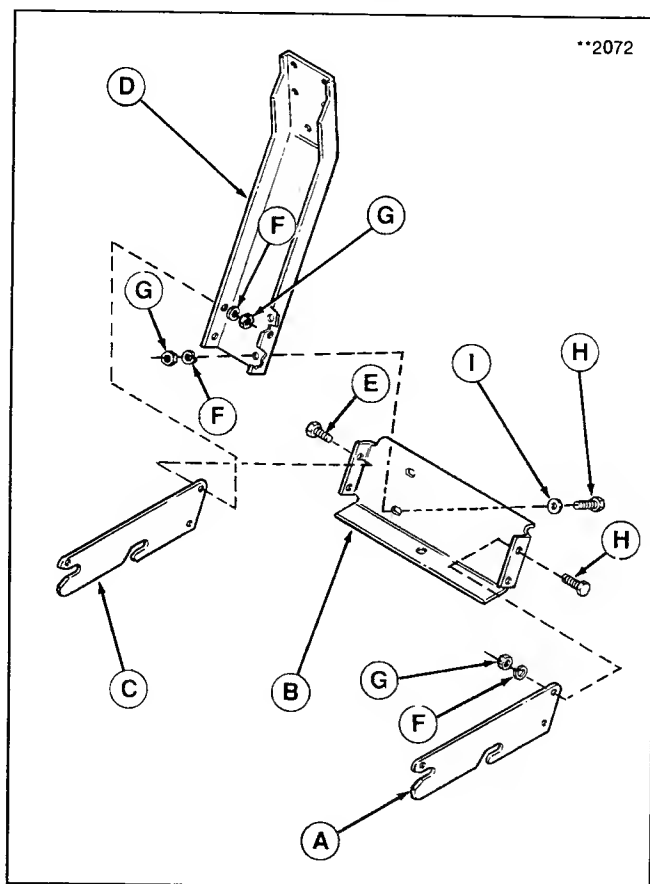

Figure 3.
5. Assemble left-hand side plate (A, figure 3) on the inside of back plate (B) as shown in figure 3. Do not tighten hardware securely.
6. On right-hand side, assemble side plate (C) between upright (D) and back plate (B). Do not tighten hardware securely.